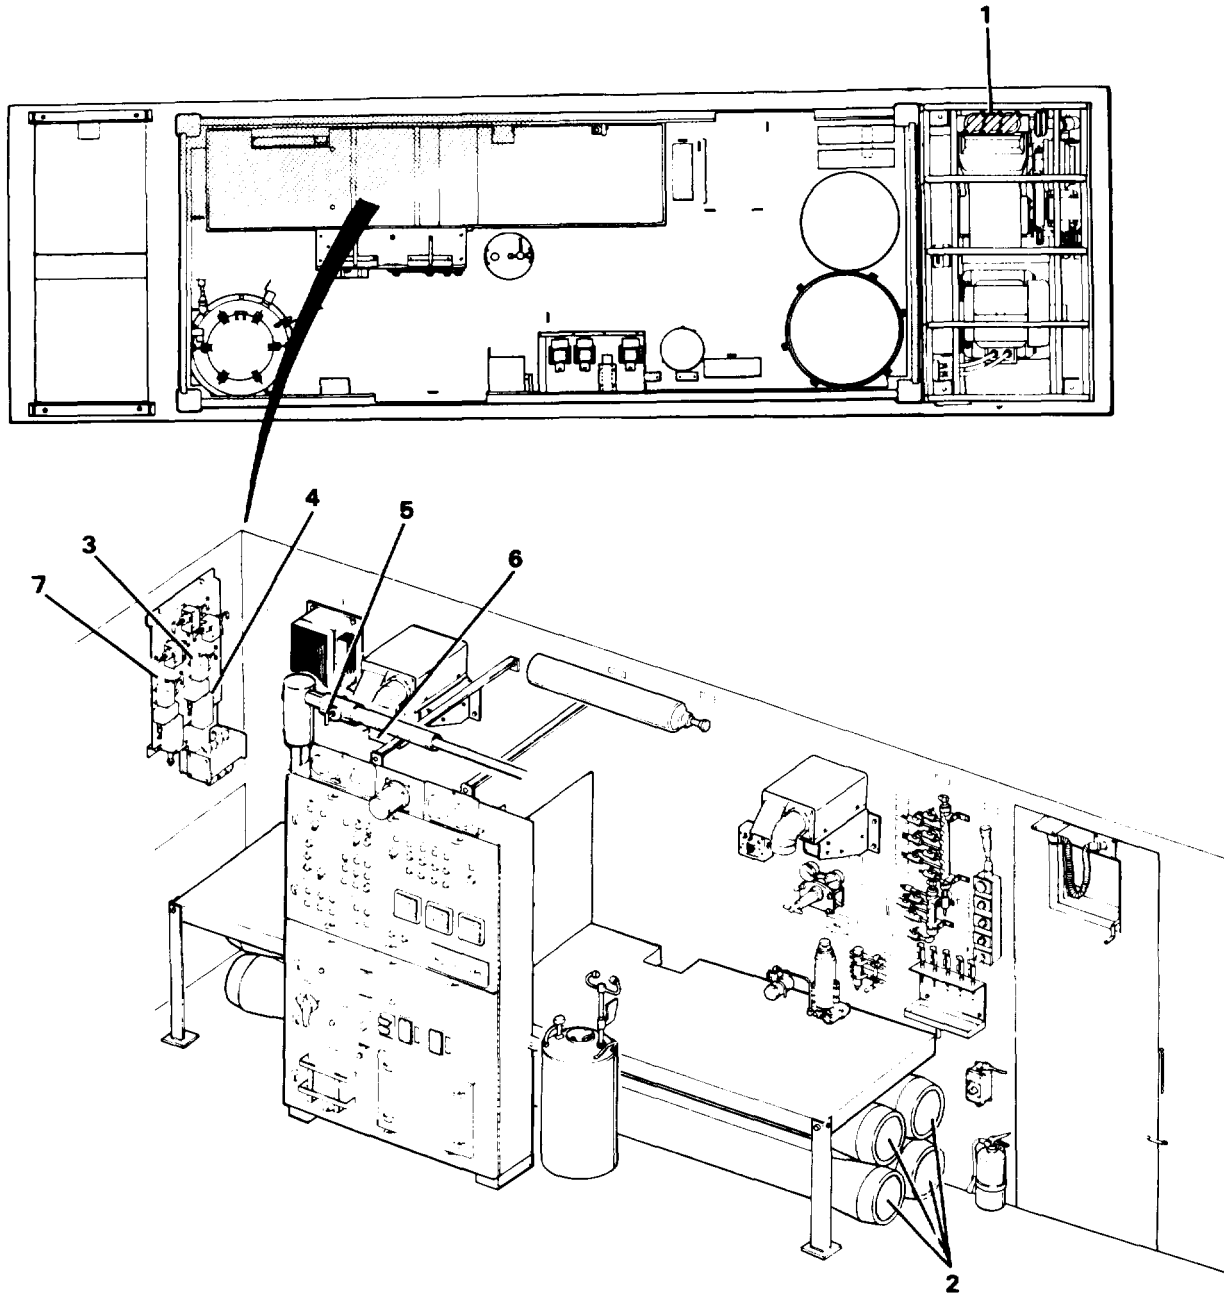

Figure 1-13. Reverse Osmosis Components
d. Reverse Osmosis Components (Figure 1-13).